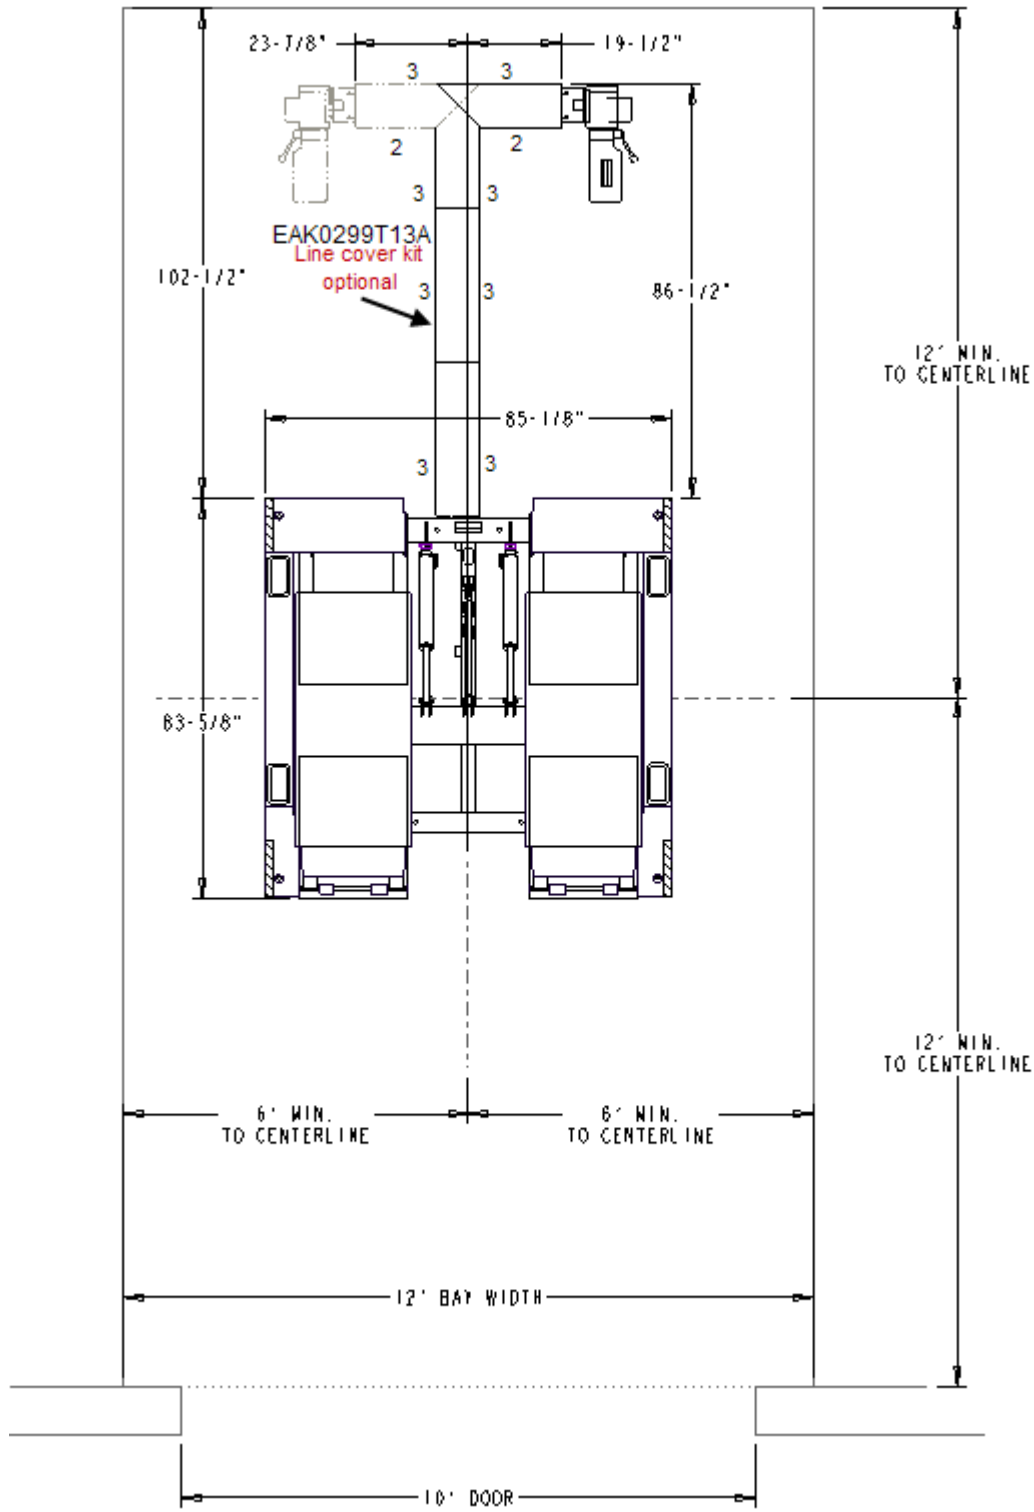

Figure 2 - Bay Layout – Surface Mount
1. Position the power pack in the location shown in the Bay layout Figure 2
3. The angled line covers 2-2733 and 2-2734 will need to be cut at the cut line shown in figure 2.